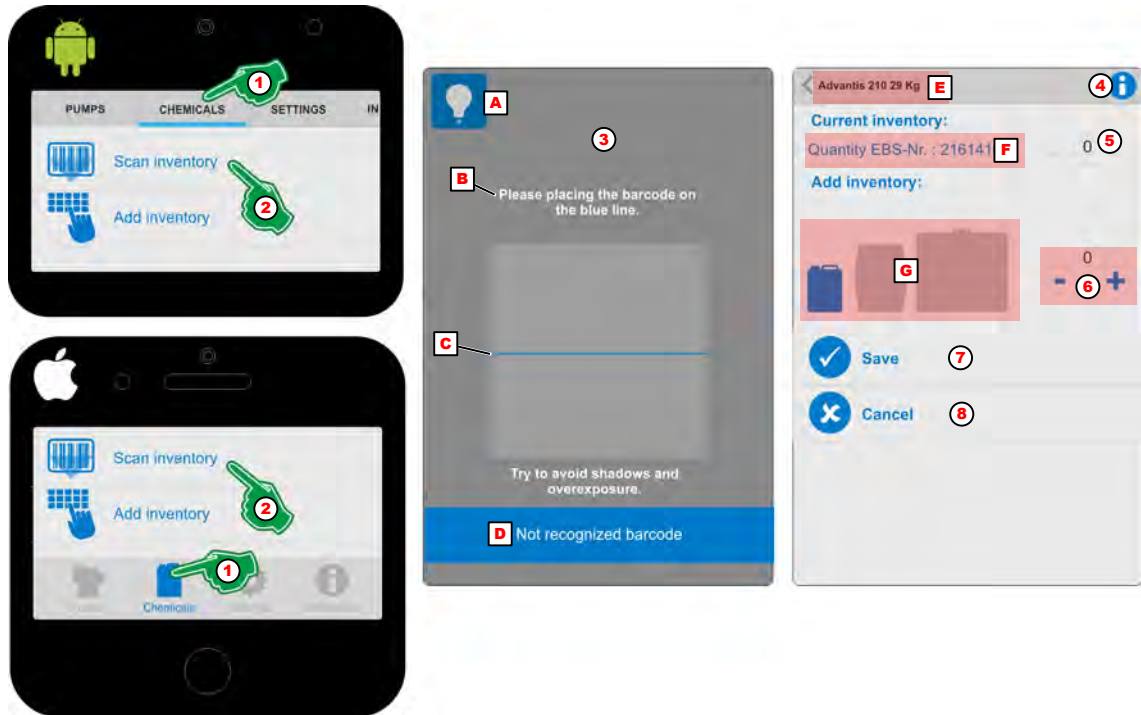

Fig. 37: Scan inventory
1. **Select Menu 'Chemicals'** (Fig. 37, Pos. 1).
2. **Select 'Scan inventory'** (Fig. 37, Pos. 2).
⇒ The screen switches to the (Fig. 37, Pos. 3) to capture the barcode. In order to achieve better scan results in poor lighting conditions, the lamp Symbol (Fig. 37, Pos. A) switch on the light of the Smartphone.
3. **The scan function** (Fig. 37, Pos. 3) starts as soon as the screen appears. When scanning, note the hint (Fig. 37, Pos. B) in the scan area. The barcode to be scanned must be positioned within the viewing window of the scan area, at best in the middle of the blue reference line (Fig. 37, Pos. C). Below the scan area, a status message (Fig. 37, Pos. D) will appear, indicating whether the scan was successful or not.
4. **If the chemical has been correctly recorded, it is displayed** (Fig. 37, Pos. E). With the selection of the [Info] ⓘ Symbol (Fig. 37, Pos. 4), the display will be:
- 5.** In addition to the recognized dosing chemistry (Fig. 37, Pos. E), the EBS no. (order number) is displayed (Fig. 37, Pos. F). In addition to this display, the quantity of the chemical in stock must be entered (Fig. 37, Pos. 5) to enable correct warehouse management.
- 6.** During the scanning process, the container size is displayed as a blue symbol graphic (Fig. 37, Pos. G). To add a stock to a new delivery of chemical containers, the quantity must be set (Fig. 37, Pos. 6).
- 7.** Press the *[Save]* button (Fig. 37, Pos. 7) to save the inputs.
- 8.** Press the *[Cancel]* button (Fig. 37, Pos. 8) to cancel the inputs.